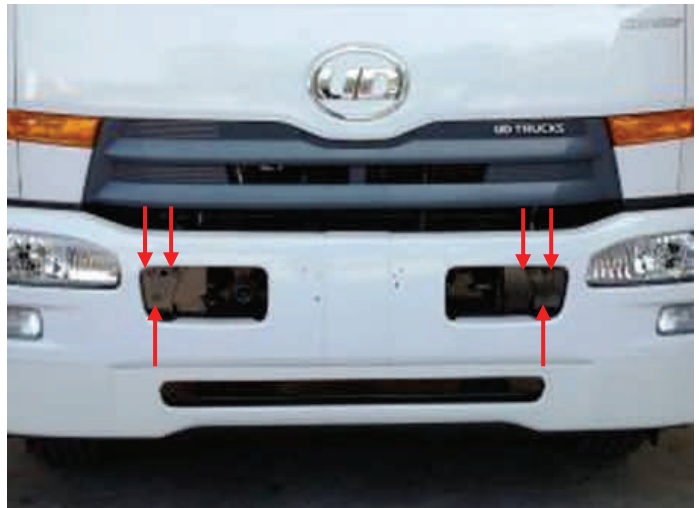

Fig. 2
Remove the bumper from the truck (including the attached light mount bar, headlights and fog lights) by removing the four (4) bolts and two (2) nuts as shown in Fig. 2